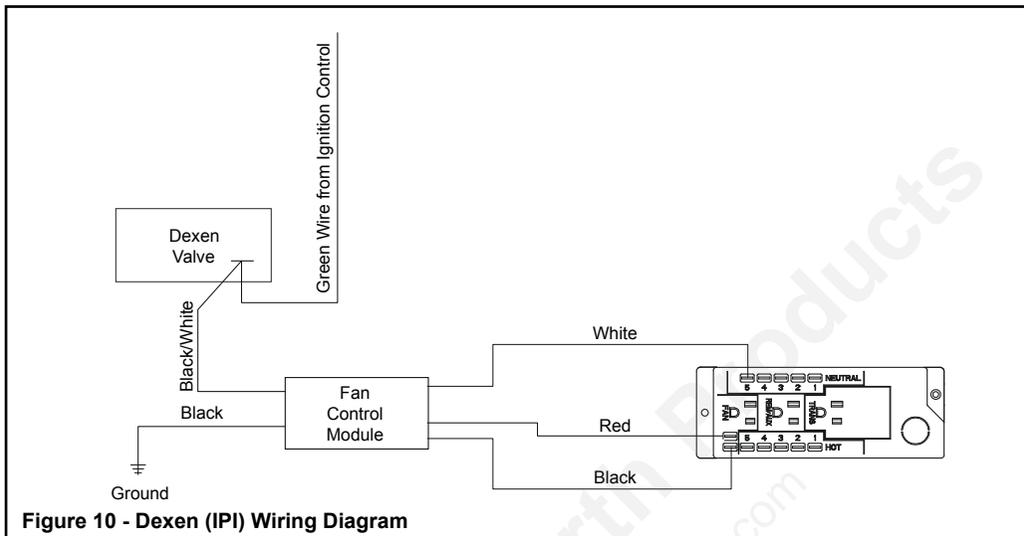

Figure 10 - Dexen (IPI) Wiring Diagram
- Connect the black, white and red wires with 1/4 in. female connectors from fan control module to appliance junction box as shown in Figure 10.